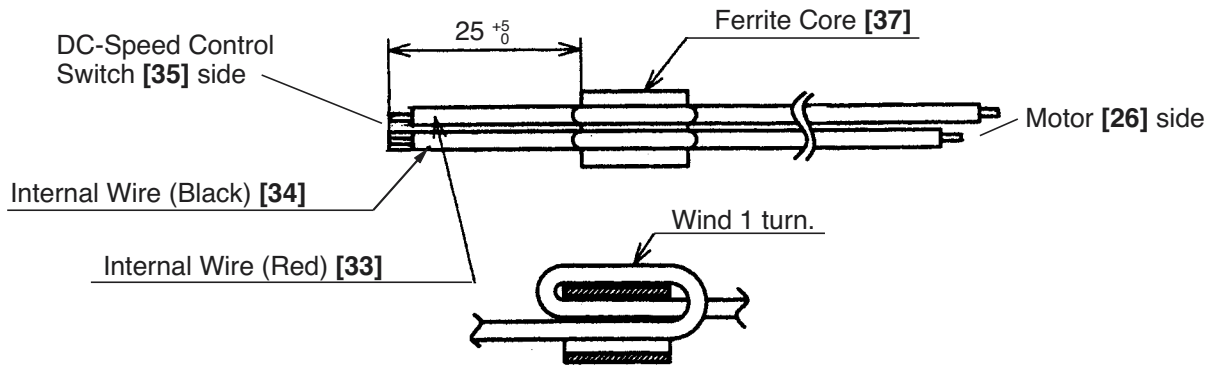

Fig. 5-1
(1) Reassembly of the power supply unit
- (a) Mount the Ferrite Core [37], Internal Wire (Black) [34] and Internal Wire (Red) [33] as shown in Fig. 5-1 or 5-2.